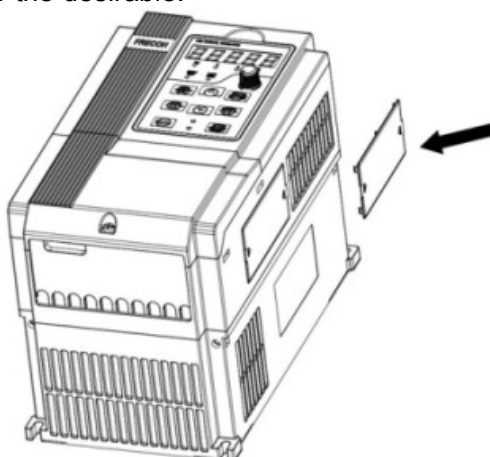

Fig.3-8 Dust cover installation and removal
a. Install dust cover: The dust cover shown in Fig3-8 parallel to the housing assembly (No cock around is installed) .